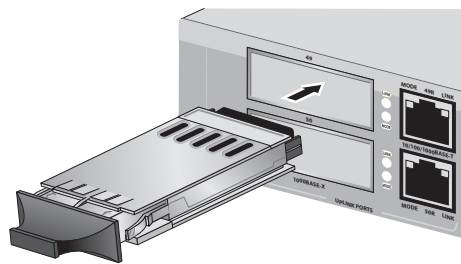

Figure 18. Installing a GBIC Module
- Slide the GBIC module, with the label side up, into an expansion slot on the switch, as shown in Figure 18.